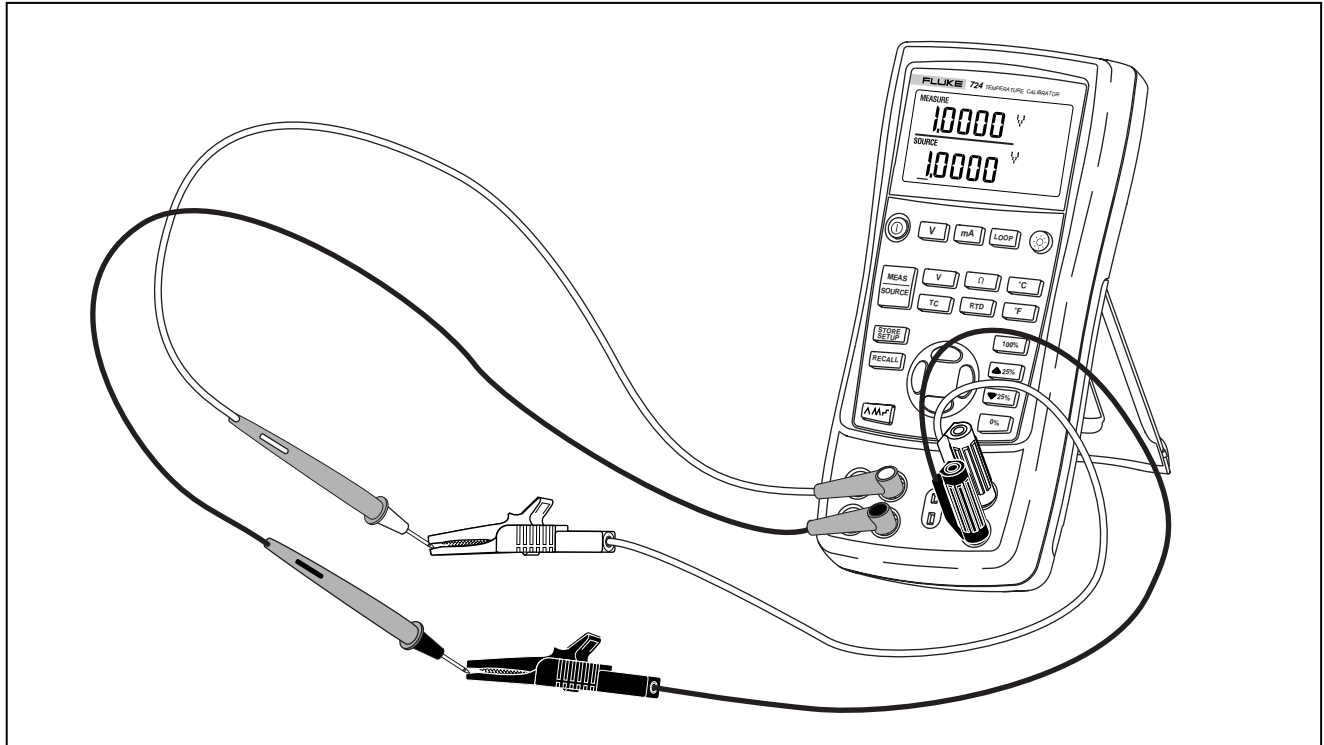

Figure 5. Voltage-to-Voltage Test
1. Connect the calibrator's voltage output to its voltage input as shown in Figure 5.